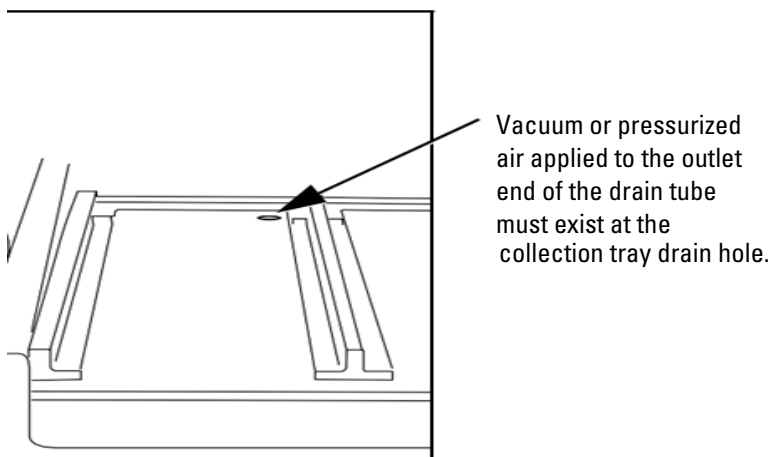

Figure 5-1 Fraction collection tray drain hole
2. Test the collection tray drain by connecting a vacuum or air supply source to the outlet end of the drain tubes. Then, verify the presence of such vacuum or air supply source on the drain hole (Figures 5-1).